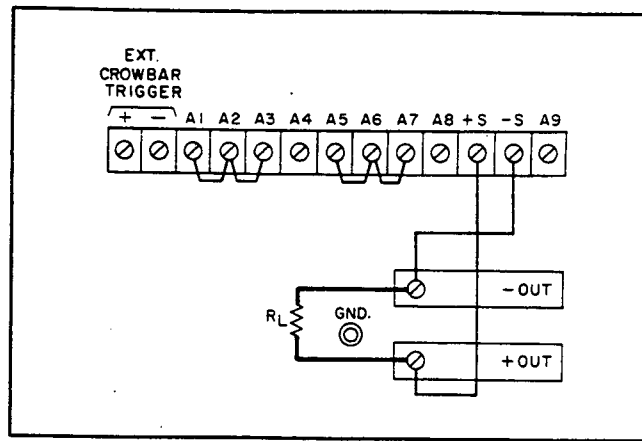

Figure 3-2. Normal Strapping Pattern
a. Turn CURRENT controls (7) and OVERVOLTAGE ADJUST potentiometer (5) fully clockwise and check that rear panel straps are connected as shown in Figure 3-2, but do not connect load R_L .
- c. Set LINE switch or circuit breaker (1) ON and observe that pilot lamp (2) lights.
- d. Adjust COARSE and FINE VOLTAGE controls (3) for desired indication on voltmeter (4)
- e. Ensure that overvoltage crowbar circuit is operational by slowly turning OVERVOLTAGE ADJUST control (5) counterclockwise with a screwdriver until OVERVOLTAGE lamp (6) lights and voltmeter indication drops to zero volts.
g. To check the constant current circuit, first turn off the supply, connect a short across the output bus bars (see Figure 3-2), and turn it back on.
h. Adjust **COARSE** and **FINE CURRENT** controls (7) until ammeter (8) indicates desired output current or current limit. (The **VOLTAGE** controls must be set for a greater-than-zero output to obtain the output current programmed.)
3-7 This power supply was shipped with the proper rear panel strapping connections made for constant-voltage/constant-current operation with local sensing and local programming. This strapping pattern is illustrated in Figure 3-2. By means of the front panel voltage and current controls, the operator selects either a constant-voltage or a constant-current output. Whether the supply functions in the constant-voltage or the constant-current mode depends on the settings of the voltage and current controls and on the resistance of the output load. For values of load resistance greater than a critical crossover value equal to the voltage setting divided by the current setting, the supply operates in the constant-voltage mode. With a load resistance smaller than this critical value, it operates in the constant-current mode. The transition occurs automatically; no switches need to be operated or connections changed.
3-28 Because of the unavoidable voltage drop developed in the load leads, the normal strapping pattern shown in Figure 3-2 will not provide the best possible voltage regulation at the load. If, for example, one were to use 4-gauge wire to connect a load that is located only 5 feet from a
The +S jumper is the one that links the +S terminal to the +OUT terminal when the supply's terminals are strapped for normal operation as shown in Figure 3-2. The -S jumper is the one that links the -S terminal to the -OUT terminal.